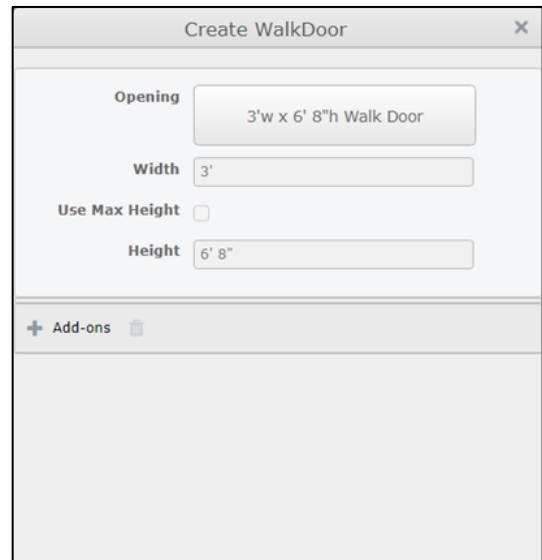

Figure 2: The *Create WalkDoor* dialog box.
2. On the *Openings and Building Additions* toolbar at the top of the page, click on the *Walk Door* command button. The *Create WalkDoor* dialog box will open, as pictured in Figure 2, at right.